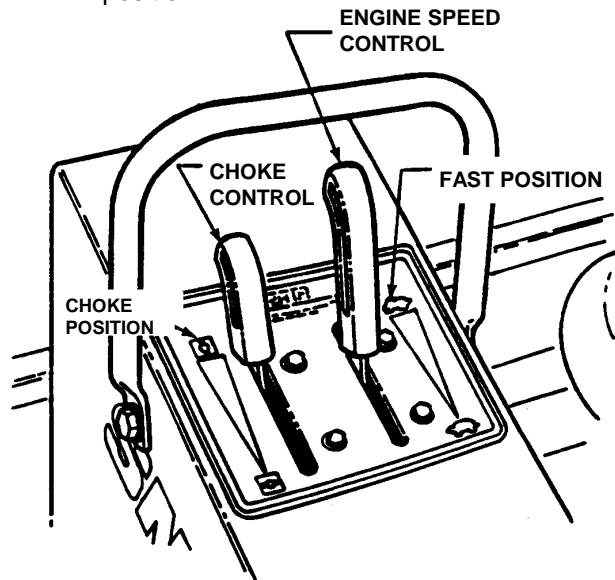

FIGURE 3.5
4. Move engine speed control to a medium speed setting. See Figure 3.5.